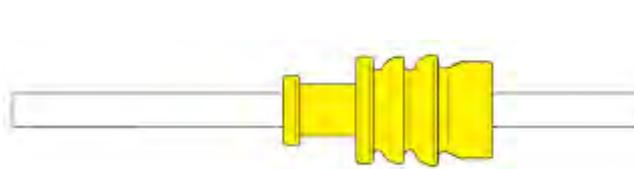

Figure 122
(1) Ensure end of wire is cut flush, then install new wire seal onto wire and move far enough onto wire to allow wire stripping, as shown in Figure 122.